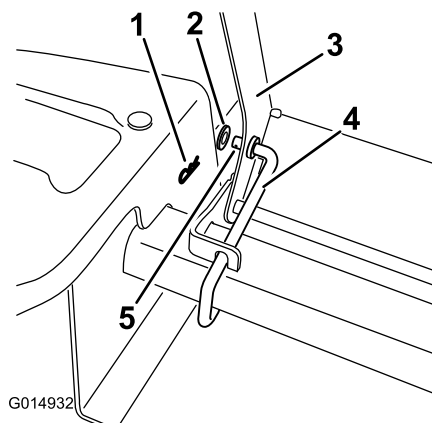

Figure 2
2. Install the seat hold bar to the seat frame. Secure the bar with the washer and cotter pin removed previously (Figure 2).